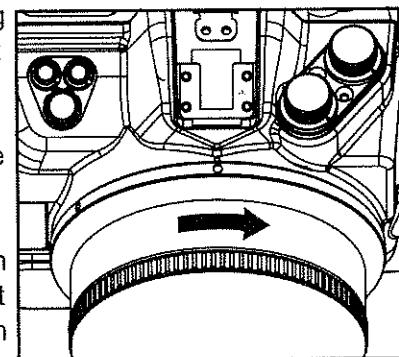

Fig.4
2. Align the OPEN mark on the port with the index screw on the housing indicated in Fig. 4. Insert the port into the front case of the housing and turn the port clockwise until it stops.